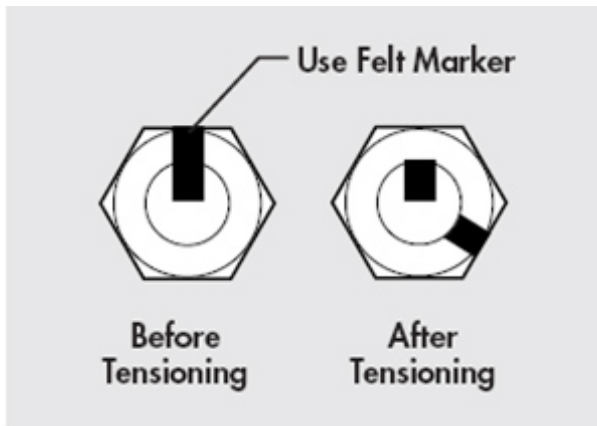
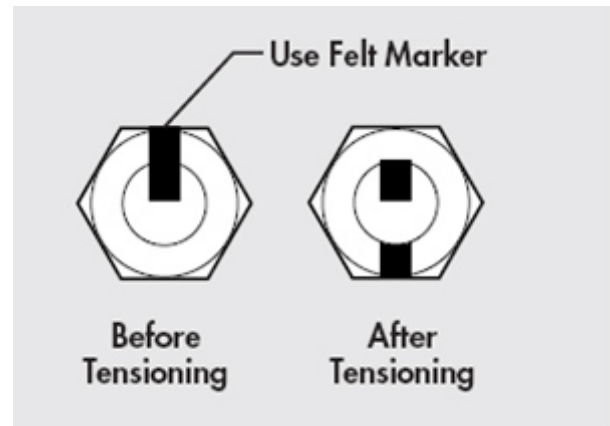

Figure 1-1: Bolts Shorter than 4 Diameters
Figure 1-2: Bolts Longer than 4 Diameters
5. Using a felt-tip marker, mark the nuts and ends of the bolts with a straight line as shown above in Figure 1-1 and Figure 1-2.
Moved 1/3 turn (120°) as shown in Figure 1-1: Bolts Shorter than 4 Diameters ("After Tensioning")
Moved 1/2 turn (180°) as shown in Figure 1-2: Bolts Longer than 4 Diameters ("After Tensioning")